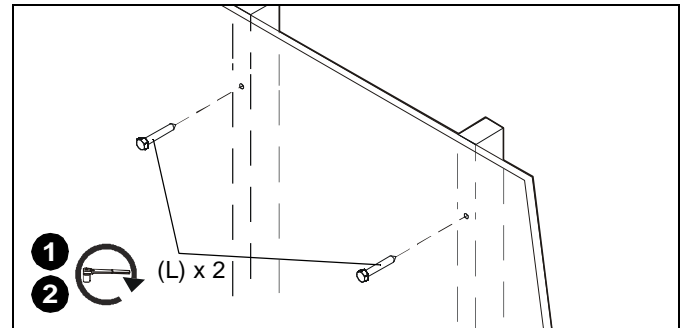

Figure 21
1. Use one 5/16" x 2-1/2" lag bolt (L) through product and into pilot hole. (See Figure 21)